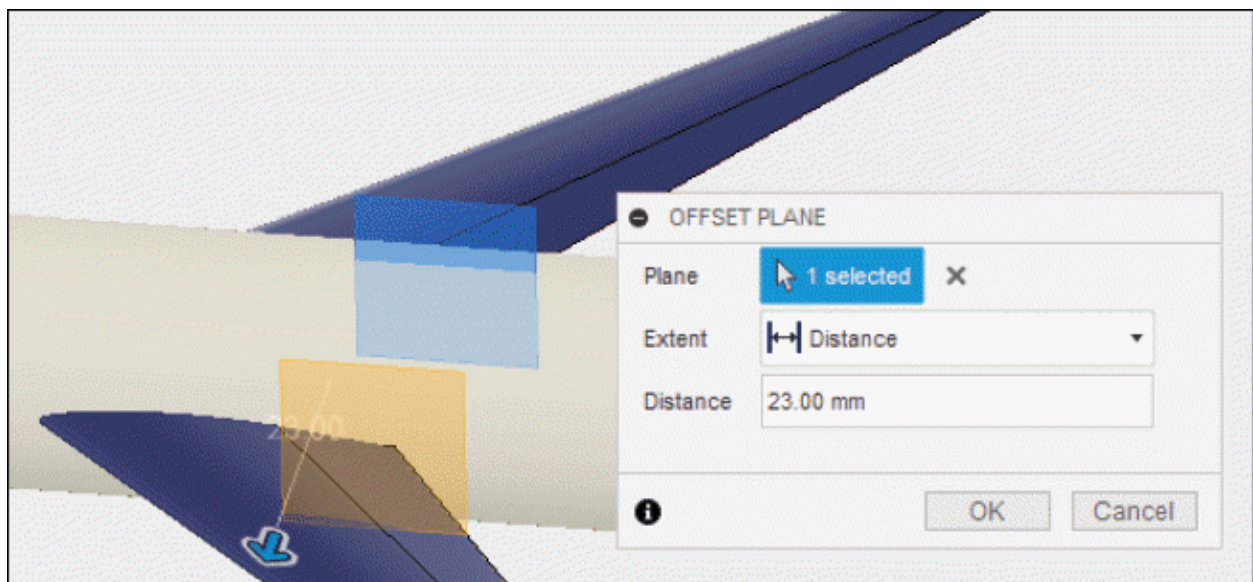

Figure-51. Creating fourth offset plane
- Create an offset plane at distance of **23** mm from **XZ** plane as shown in Figure-51.